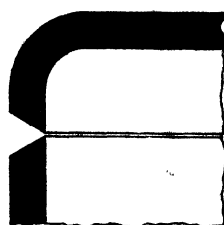

Fig. 64. Head Weld for High-Pressure Tanks
**High-Pressure Tanks.** When a head is put in, as shown in Fig. 64, both the edge of the flange and the edge of the shell are chamfered. This type of head is the best for high-pressure tanks because the weld is in tension.